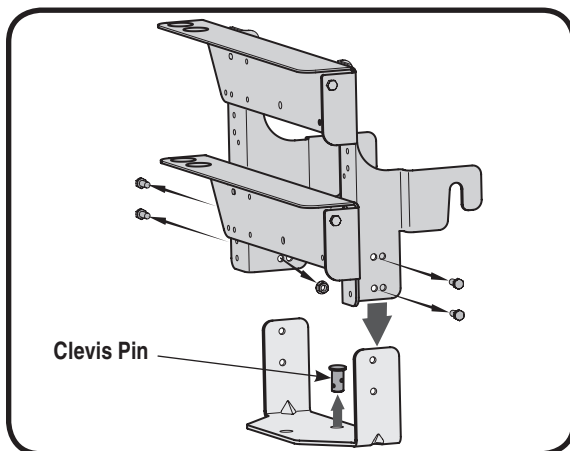

Figure 3-10
1. Remove the two nuts and screws on each side of the mounting bracket holding the hitch plate. See Fig. 3-10.
3. Remove the hairpin clip and clevis pin from the hitch plate as seen in Fig. 3-10. Save the hardware.